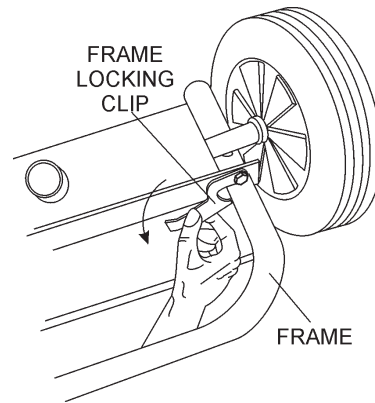

Figure 12. Frame Locking Clip
9. Before attempting to lift mixer, locate the frame locking clip. Attach the locking clip as shown in Figure 12. This will prevent the mixing drum from moving when the mixer is positioned in an upright position.